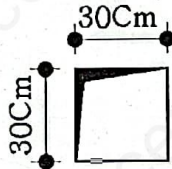

Figure 1
3. The symbol below represented by Figure 1 with real dimension, found on a formwork plan is: